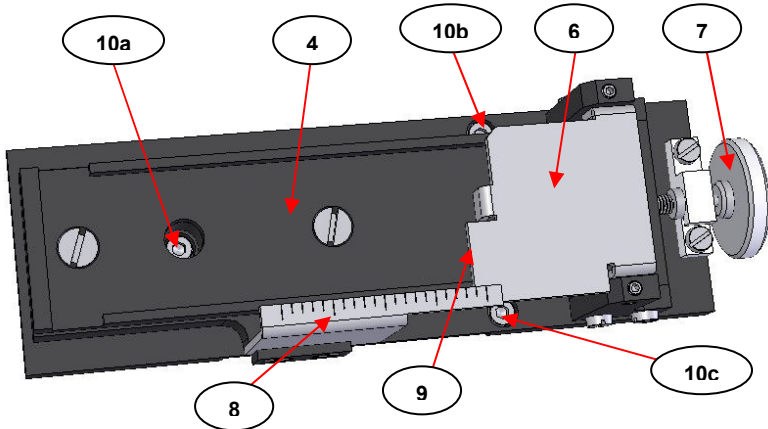

Fig 5. Fixing Screws of Liquid Sampling Platform Assembly
Fig 5. shows the liquid sampling platform assembly (4) after removal of the PTFE trough (3) and tensioning bar (5). The three M3 x 6mm cap head screws (10a, 10b and 10c) are indicated and these are used to affix the complete liquid sampling platform assembly (4) to the **height adjustment mechanism** (12) of the main Monolayer Accessory unit.